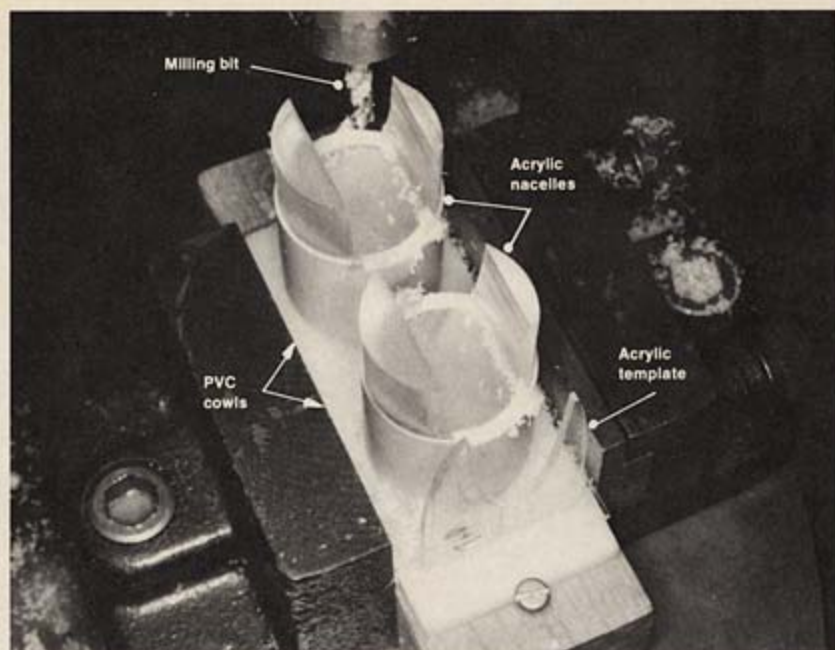

Fig. 16. Paul used a sheet acrylic template to guide the milling bit as it made cutouts in the nacelles for the wing.
**Engines and nacelles.** I robbed two engines from a Monogram B-24 kit and removed their rear mounting surfaces. I turned the nacelles from acrylic rod and mounted thick-walled PVC pipe cowlings to the nacelles. (PVC pipe is available in hardware stores and home improvement centers.) Using an acrylic template as a guide, I milled the cutouts for the wing into the nacelles. I clamped the nacelles side by side in a jig and cut them with a sharp bit, Fig. 16.